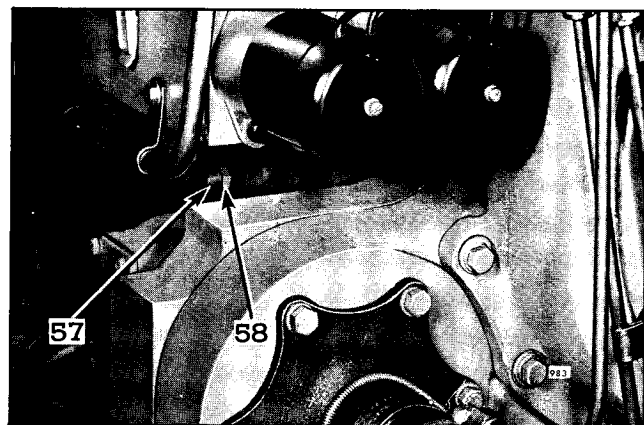

Fig. 5 - Buffer Screw Location
1. With the engine running at idle speed, turn the buffer screw (57), Fig. 5, IN so that it contacts the differential lever as lightly as possible and still eliminate the engine roll.